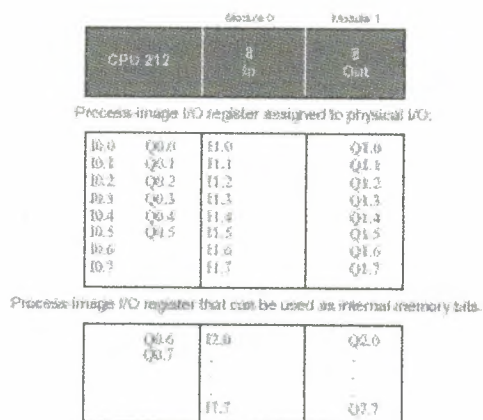

Figure 7-11 I/O Numbering Examples for a CPU 212
Figures 7-11, 7-12, and 7-13 provide examples that show how different hardware configurations affect the I/O numbering. Your program cannot use notice that some of the configurations contain gaps in the addressing that, while other I/O addresses can be used in the same manner as the internal memory (M) bits.